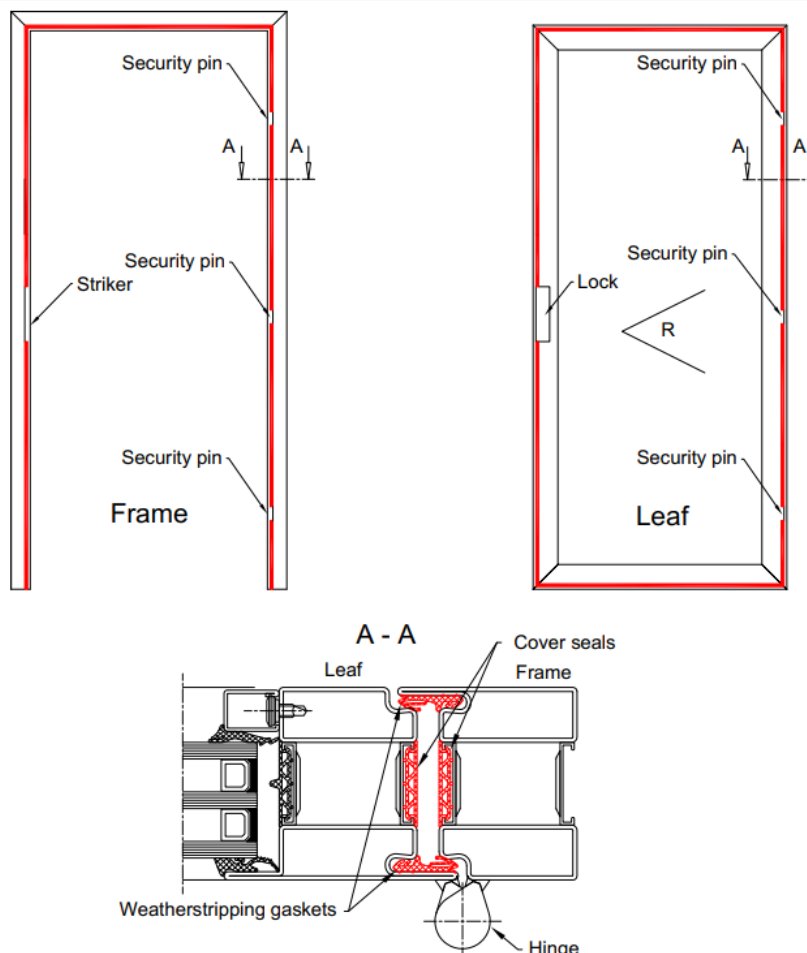

Figure 5 Installation of cover seals and weatherstripping gaskets
14. Install the cover seal to the frame, starting from lower point of the frame. Do not cut the seal at the frame corners, it may be only cut near the lock and security pins. Cut the seals 1 cm longer, than the frame gap length and install it to its place. During installation, make sure, that the weatherstripping gasket is installed in the right direction (Figure 5).